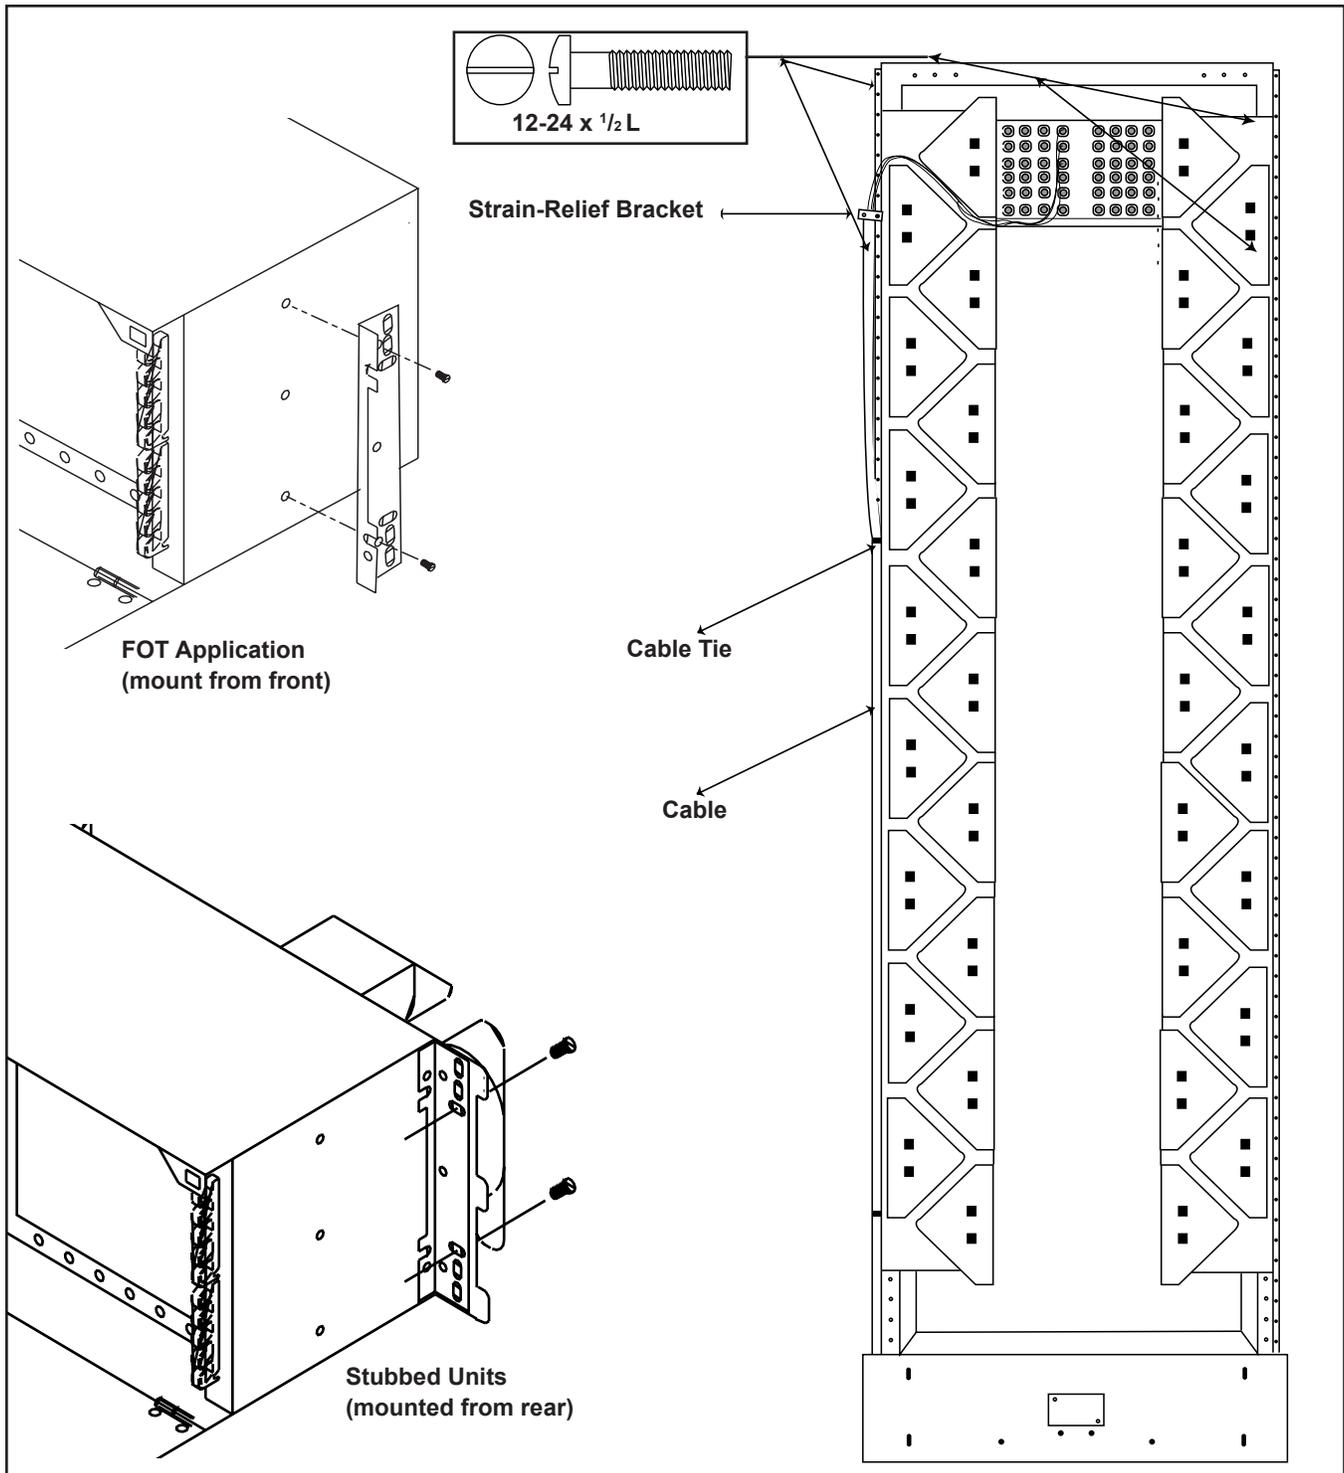

Figure 5
**8.1** The ACH may be mounted on a standard 23-inch equipment rack. The ACH is available with or without a cable stub. Stubbed units (OSP applications) are shipped with rear doors and are typically mounted to the rack from the rear (Figure 5). Non-stubbed ACHs (FOT applications) usually have
doors pre-installed to the rack. In this configuration the mounting bracket is installed in the forward position and mounted from the front (Figure 5).
**8.2** Attach the unit to the equipment rack with screws provided, two screws per side of each housing (Figure 5).